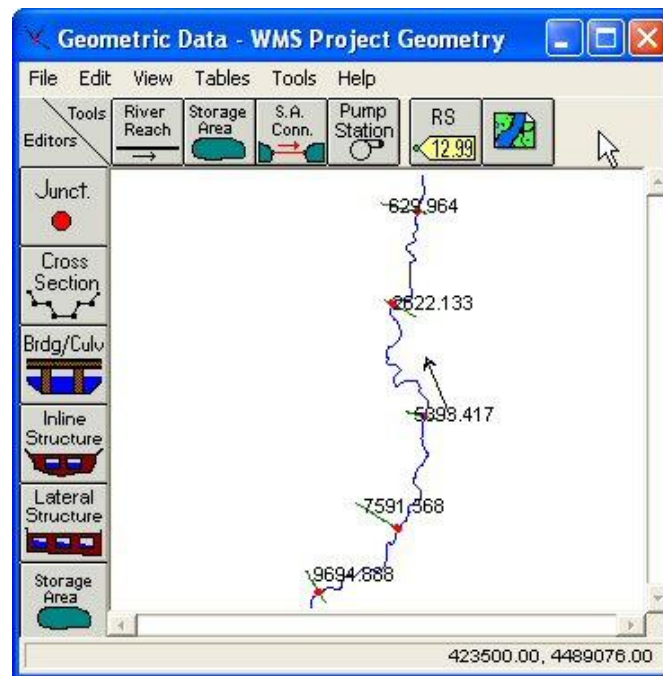

Figure 8-2: Geometric data imported from WMS.
9. The display should look similar to that shown in Figure 8-2 (If you do not have the most recent version of HEC-RAS you may receive a plot extents error message. This can be corrected by selecting **View / Set Schematic Plot Extents** and selecting the *Set to Computed Extents* button).